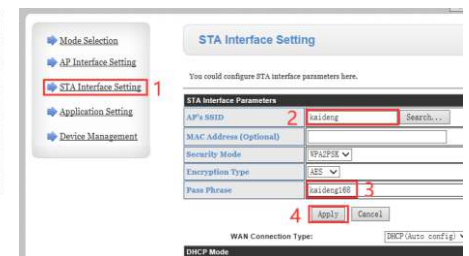

Figure13
4. Click Search on the STA Interface Setting to search the network, and enter the password in the Pass Phrase and click Apply, as shown in Figure 13: